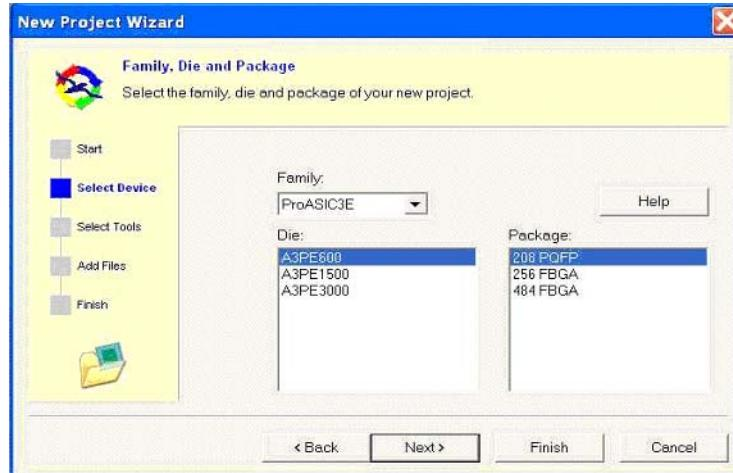
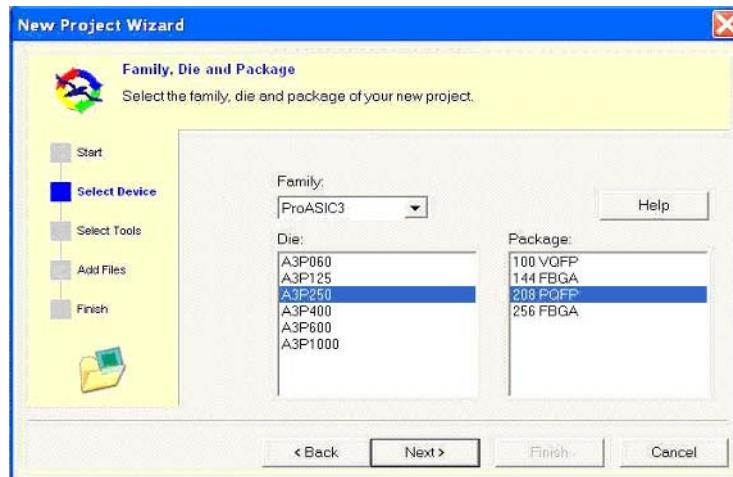

Figure 7-2 • Select A3PE600-PQ208
Figure 7-3 • Select A3P250-PQ208
6. Select your project **Family**, **Die**, and **Package**. For this tutorial, you can select **ProASIC3E**, the **A3PE600** die, and **208 PQFP** for the package (Figure 7-2), or select **ProASIC3**, the **A3P250** die, and **208 PQFP** for the package (Figure 7-3).